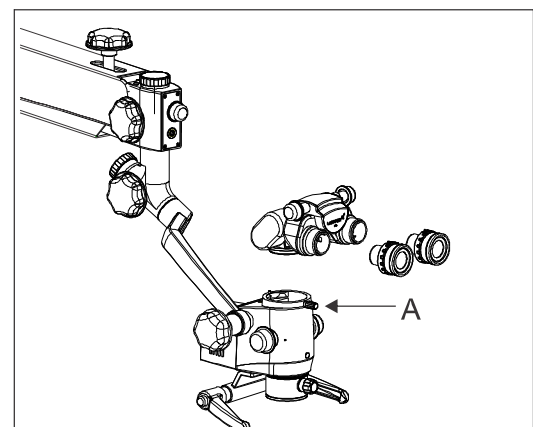

Fig. 6
7.5 Install the binocular head and eyepieces on the magni-changer. Secure the binocular head with head locking screw shown as (A) in Fig. 6